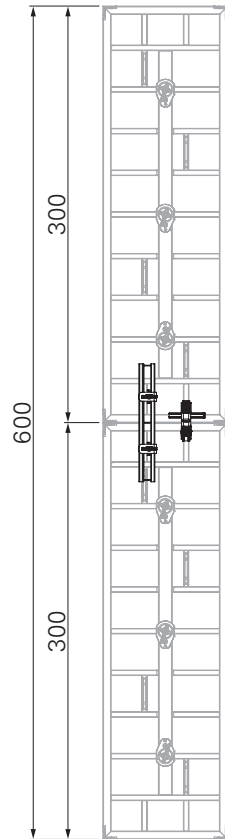
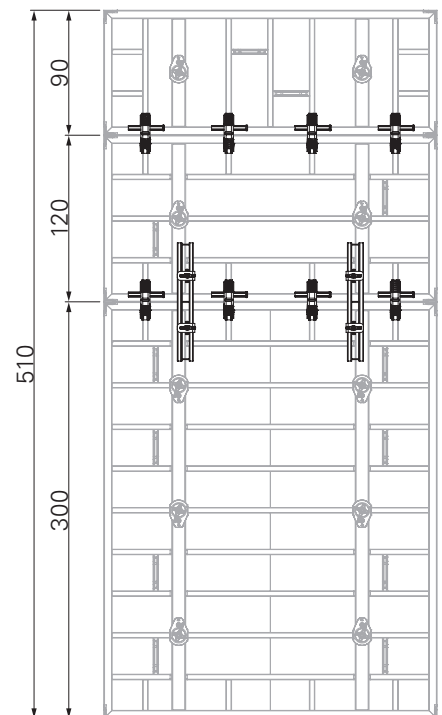

Fig. C10.01a
Fig. C10.01c
- For extension units with a height of $5.10 \text{ m} < H \leq 6.00 \text{ m}$, fit Alignment Couplers BFD (28) and Compensation Walters-4 MAR 85 (33) at the panel joints.
- Examples: (Fig. C10.01a – Fig. C10.01c)
- If a Panel MX-2 $H = 30$ cm is added horizontally, the tie can be dispensed with for this panel. The unused tie point must be sealed with a Plug MXM15 $\text{Ø}18.3\text{mm}$ (71).